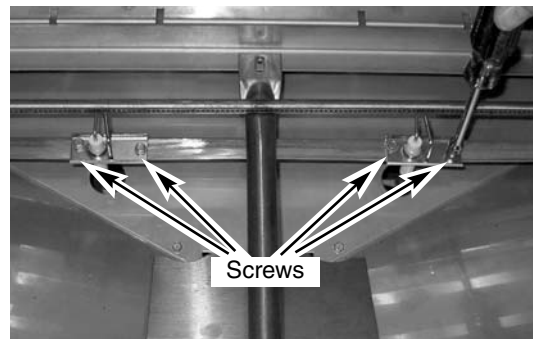

Fig 3
3. Remove the two screws holding each igniter in place (Fig. 3).